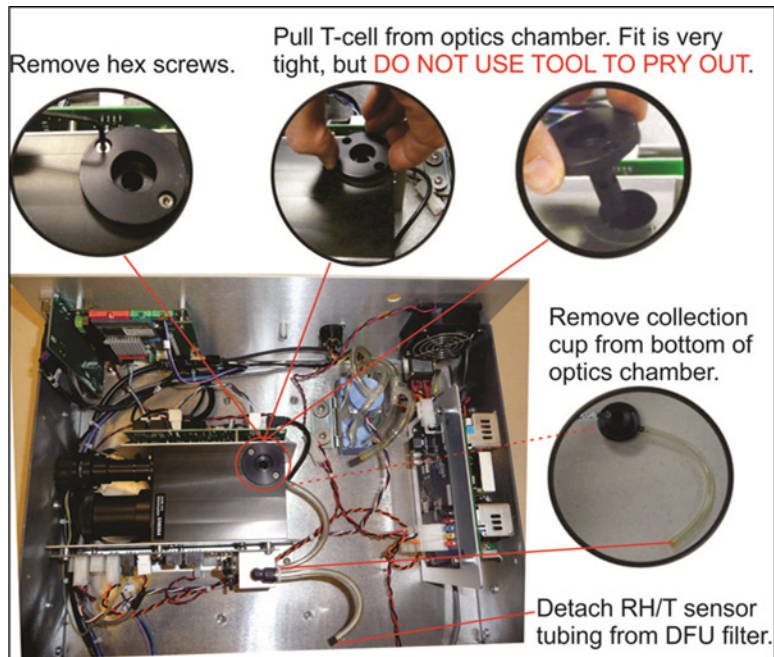

Figure 9. Maintenance: Optical Chamber Disassembly
14. Remove the optical cell from the optics chamber and remove the cup, including its tubing, from the bottom of the optics chamber; detach the RH/T sensor tubing from the DFU filter (**Figure 9**). It is very important that all components are disassembled before blowing air into the chamber.